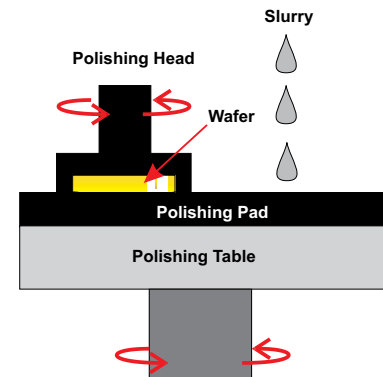

Figure 1 — CMP Process
The Chemical Mechanical Planarization (CMP) process plays a key role in the manufacture of data storage, video display panels, and semiconductor chips. The process combines the chemical (acidic or basic) effect of the slurry, which contains micro-abrasives with the mechanical effect provided by polishing to reduce the topography on the wafer or rigid disk substrate. The process for manufacturing integrated circuits (IC) uses a “tool” with a rotating wafer carrier (single or multi-head) and a polishing pad placed on a rotating platen. Wafers are held in the carrier and pressed against the polishing pad onto which chemical abrasive polishing slurry is dispensed (Figure 1).